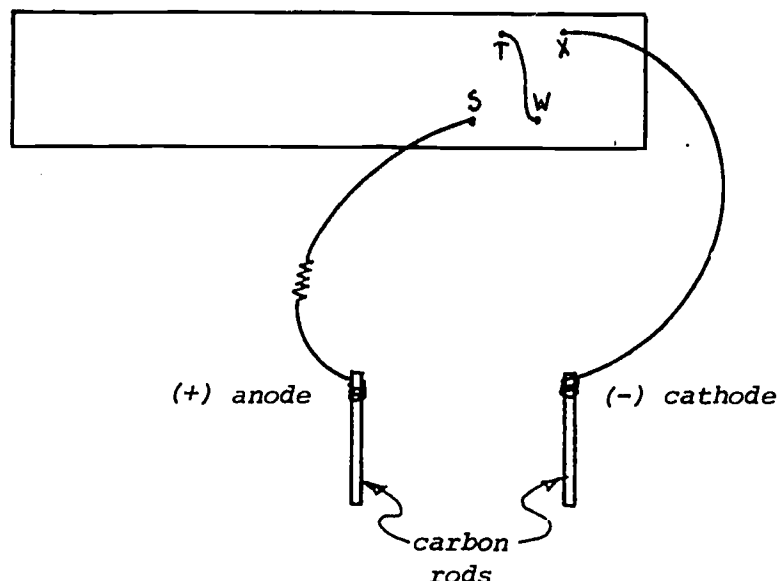

FIGURE 4: Attachment of the carbon rods.
3. The next step is to attach one carbon rod to the anode and another to the cathode as shown in Figure 4 on the following page. Before doing this clean each rod carefully with steel wool and soap. Rinse well. (It is important that the surface be free of foreign particles and grease or the plating will not be uniform.) Also, to assure a good connection, the wire should be wound around the carbon rod three or four times. You may need to peel away part of the insulation to expose sufficient wire.